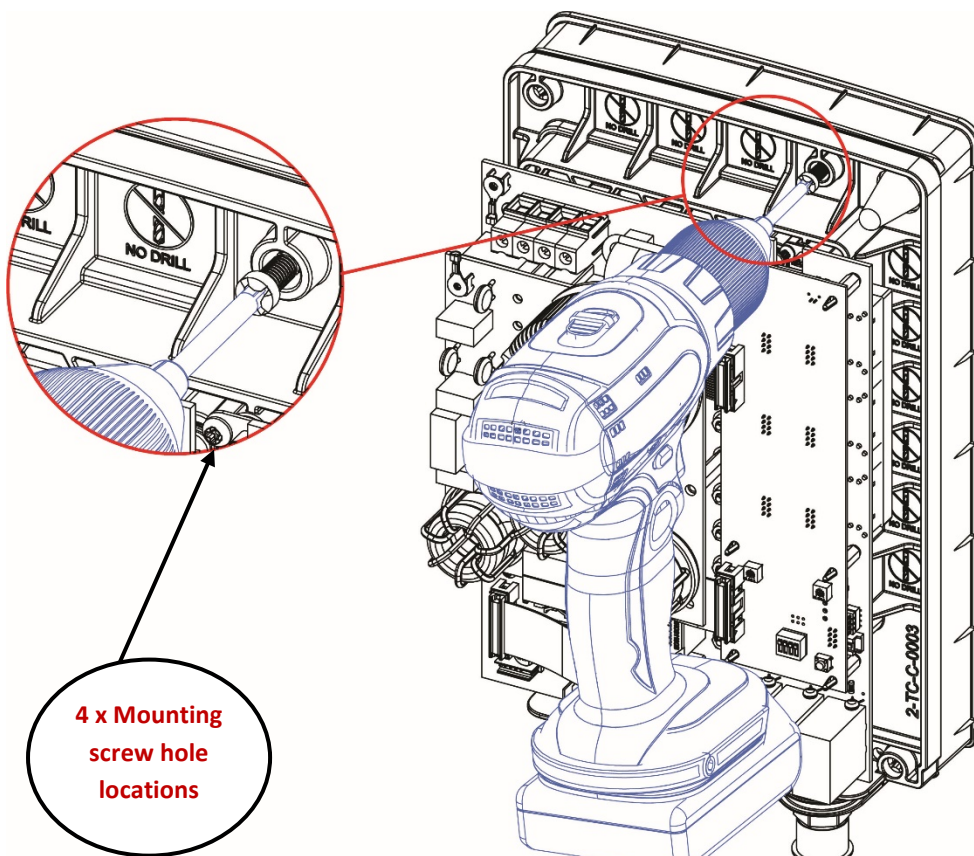

Figure 3 - Mounting Screw Location
The unit should be mounted onto a solid internal wall, or in an internal cupboard or space, preferably in the vertical position using the 4 x Mounting Screws (12) placed within the Mounting Screw Hole Locations as shown in Figure 3. Refer back page for screw hole template and page (19) for CFEWH dimensions.